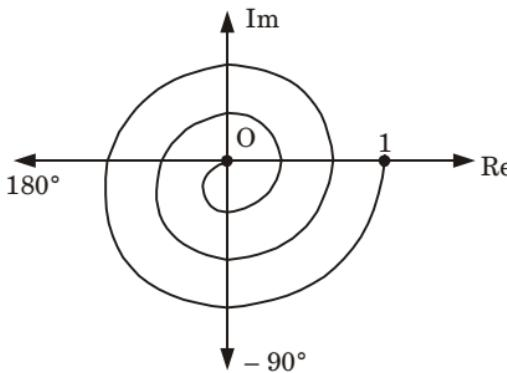

Fig. 4.8.1.
4. Here the magnitude decreases from unity monotonically and the phase angle also decreases monotonically and indefinitely, the polar plot of the given transfer function is spiral as shown in Fig. 4.8.1.